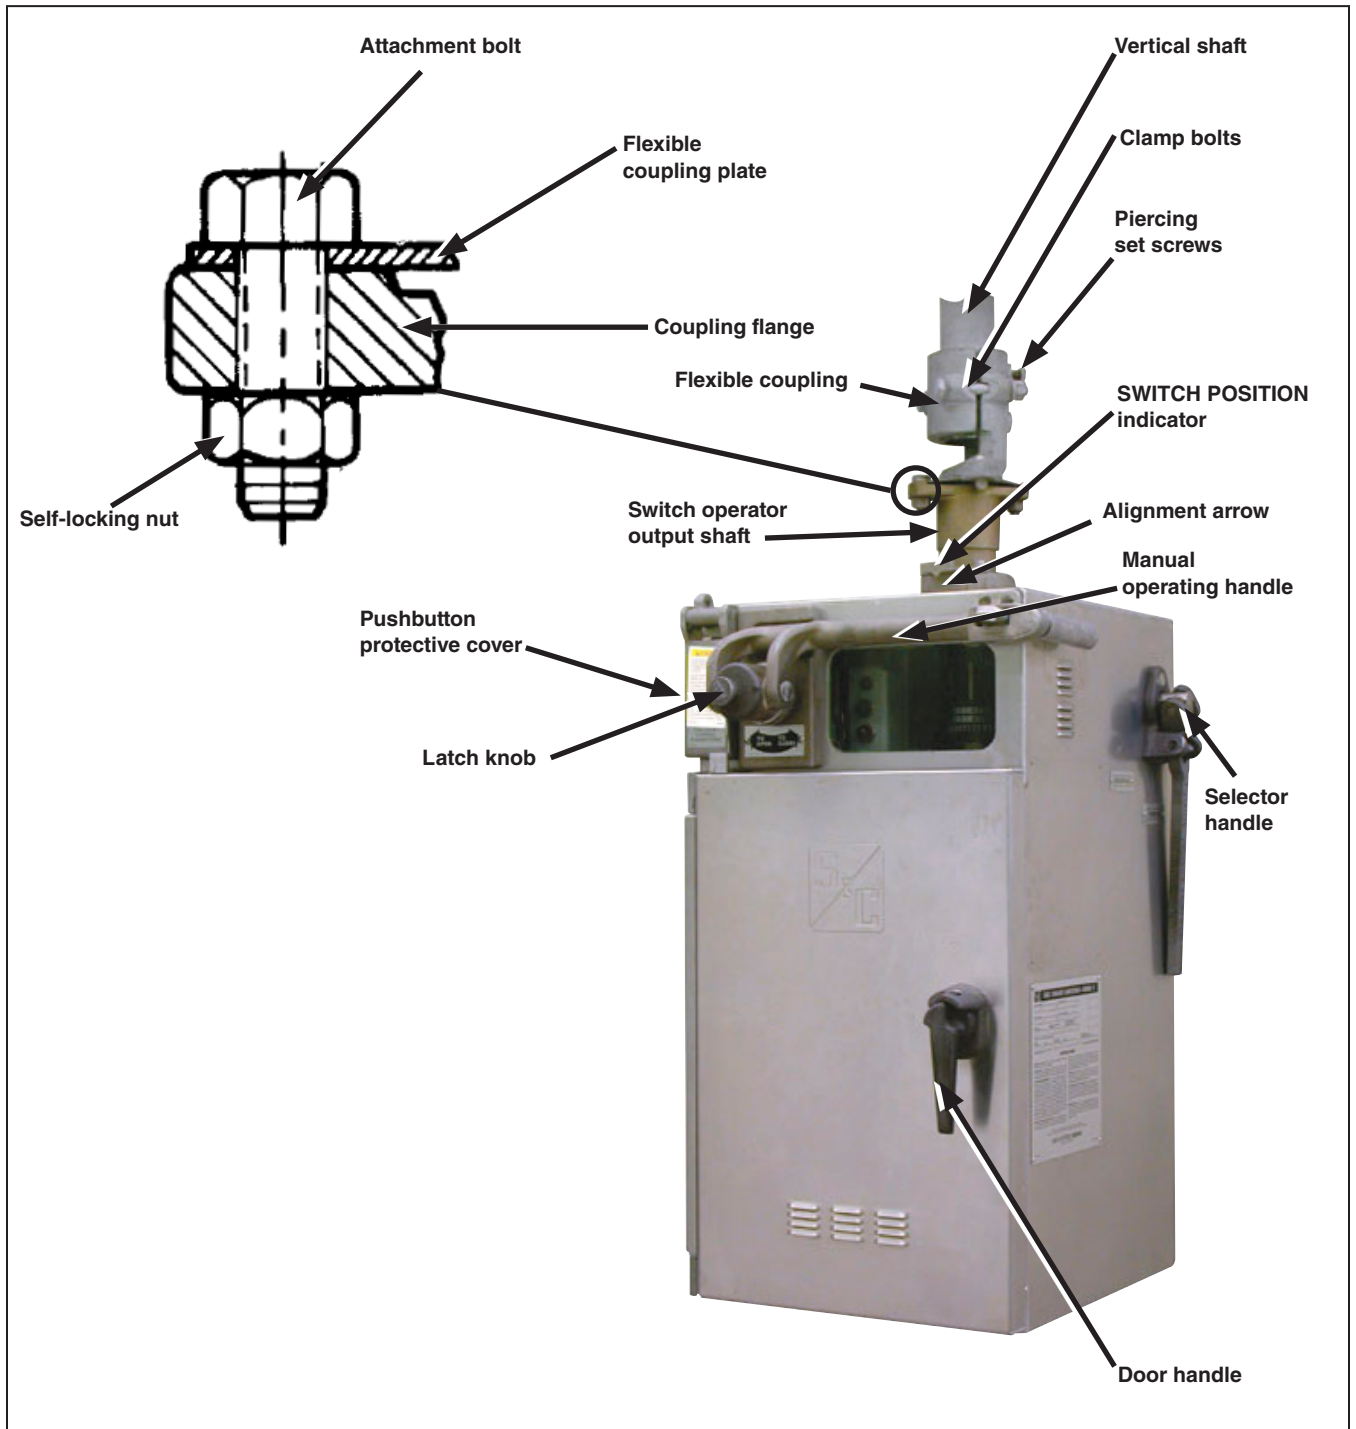
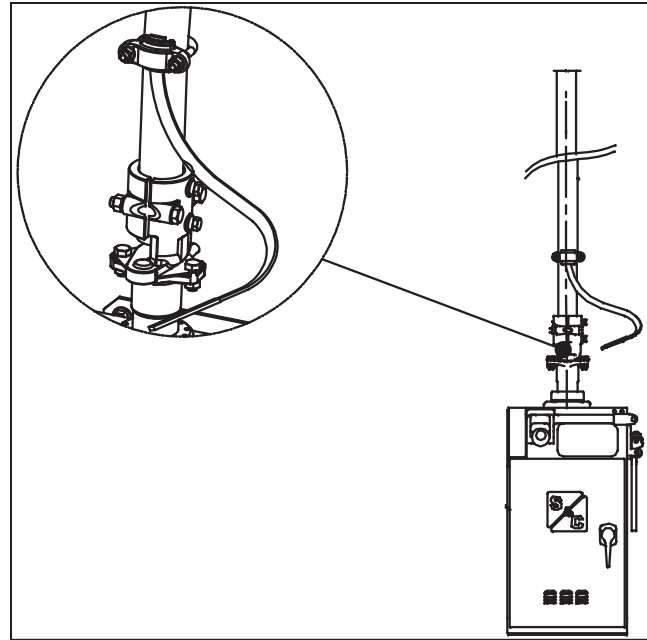

Figure 2. An external view of a Type AS-1A Switch Operator with the door closed.
Figure 5. Ground connection to the Alduti-Rupter Switch's vertical operating pipe.
- STEP 2.** Attach a flexible coupling to the output shaft of the switch operator. See Figure 2 on page 9 and Figure 5. Thread the attachment bolts through the flexible coupling plate and through the coupling flange on the output shaft. Tighten the bolts to draw the flexible plate flush against the flange; this will deform the threads in the flexible plate, resulting in a binding, nonslip connection.
- STEP 2.** With the selector handle in the **Coupled** position, manually crank the switch operator to the fully **Closed** position, as indicated by the SWITCH OPERATOR POSITION indicator. See Figure 2 on page 9.